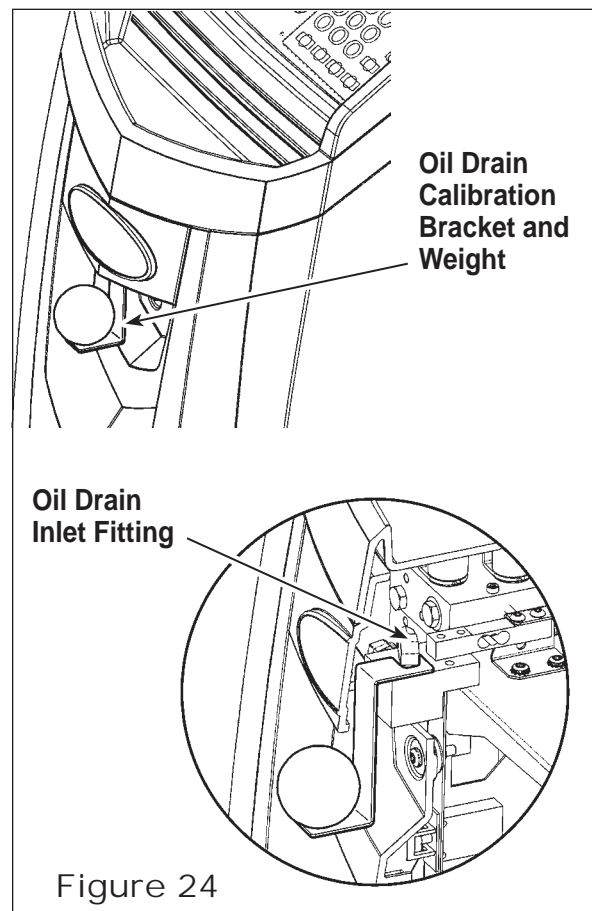

Figure 24
2. Hook the notch in the end of the oil drain calibration bracket (supplied) around the oil drain inlet fitting as shown in Figure 24.